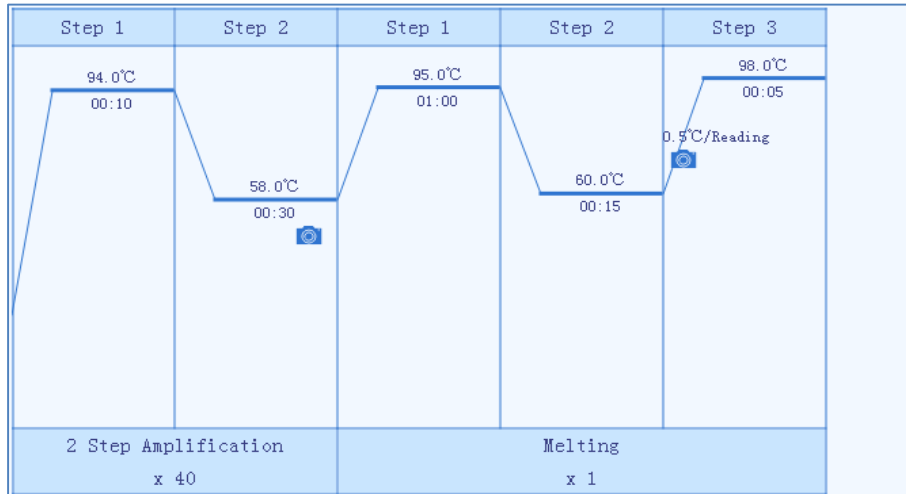

Figure E-5.4 Run Monitoring Diagram - Temperature program
- If user select the **Temperature** option in the run monitoring option bar, run monitoring diagram will display the temperature program of the current experiment, as shown in figure E-5.4.